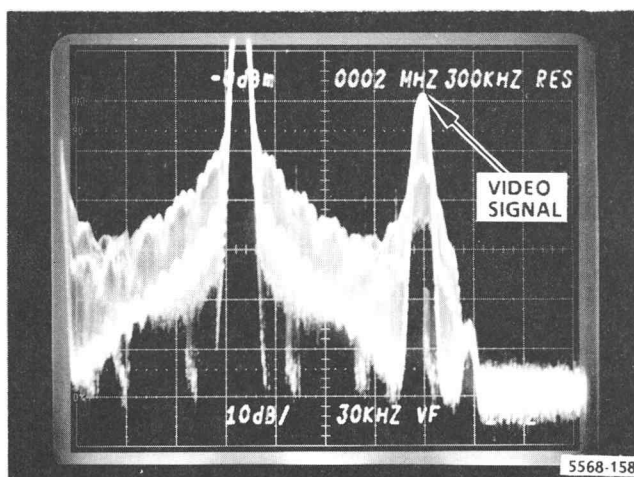

Fig. 4-26. Typical display of video signal.
- e. Note the level of the video signal. See Fig. 4-26.